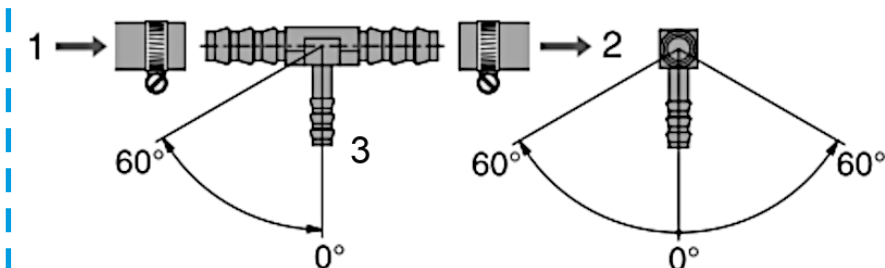

Fig. 36
- ☐ Cut/divide the fuel pipe of the vehicle and install the T-piece with its thicker openings between the two ends Fig. 36 (1) (2) of the pipe.
- ☐ After this connect the fuel pipe of the heater with the help of a rubber sleeve with the thin end Fig. 36 (3) of the T-piece.